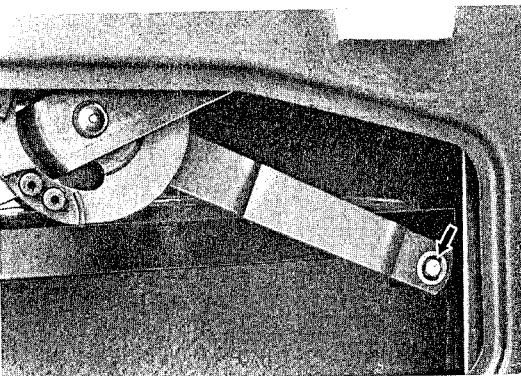

Fig. 41
6. Remove the nut (14 mm) from the inside of the elevating arm pin (on the other end of the pin shown by the arrow Fig. 41).
4. Install the nut on the back of the elevating arm pin (Fig. 41) and raise the window fully to determine whether the window is parallel to the frame. Adjust the mounting screws of the elevating assembly.